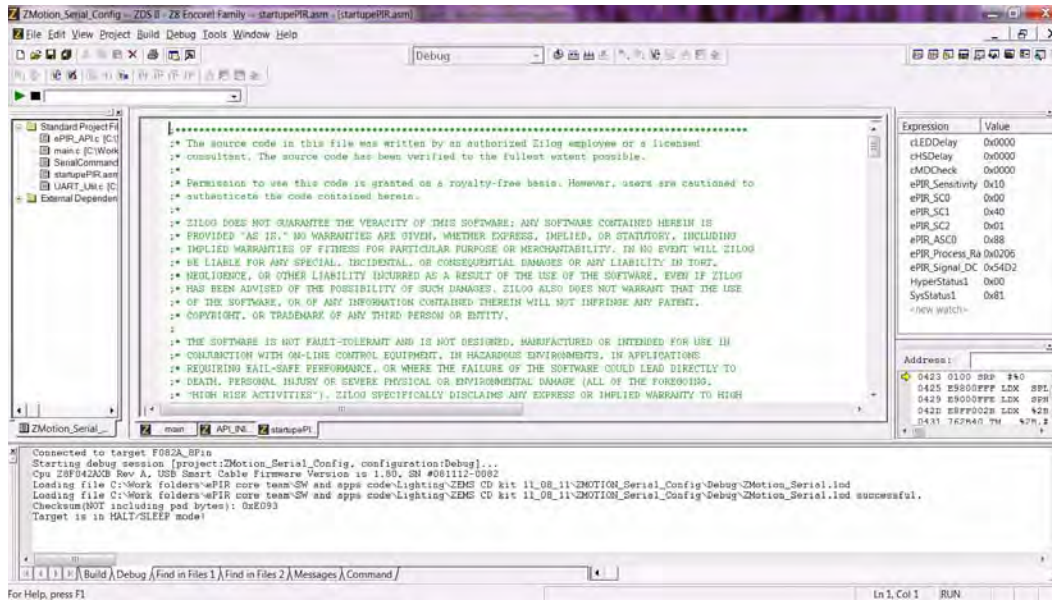

Figure 15. ZDSII's Debug Output Window for the ZMOTION_Serial_Config Project
- An information notice may appear, indicating that the silicon is not the latest version. This occurrence is normal and is not an issue. Click **OK** to continue. You should see a message in the Debug Output Window indicating that the load was successful, as shown in Figure 15.